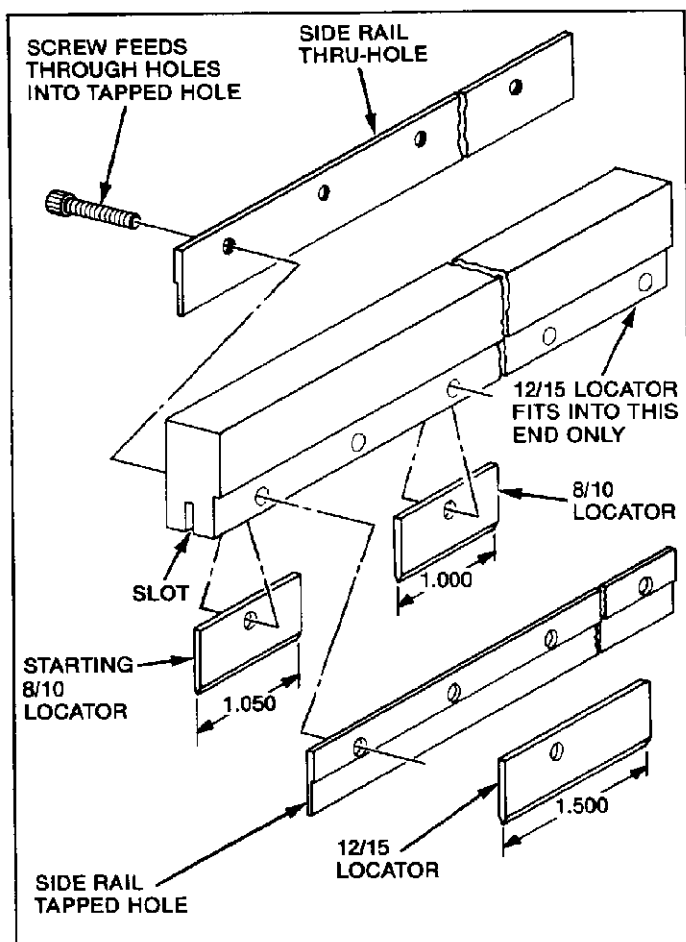
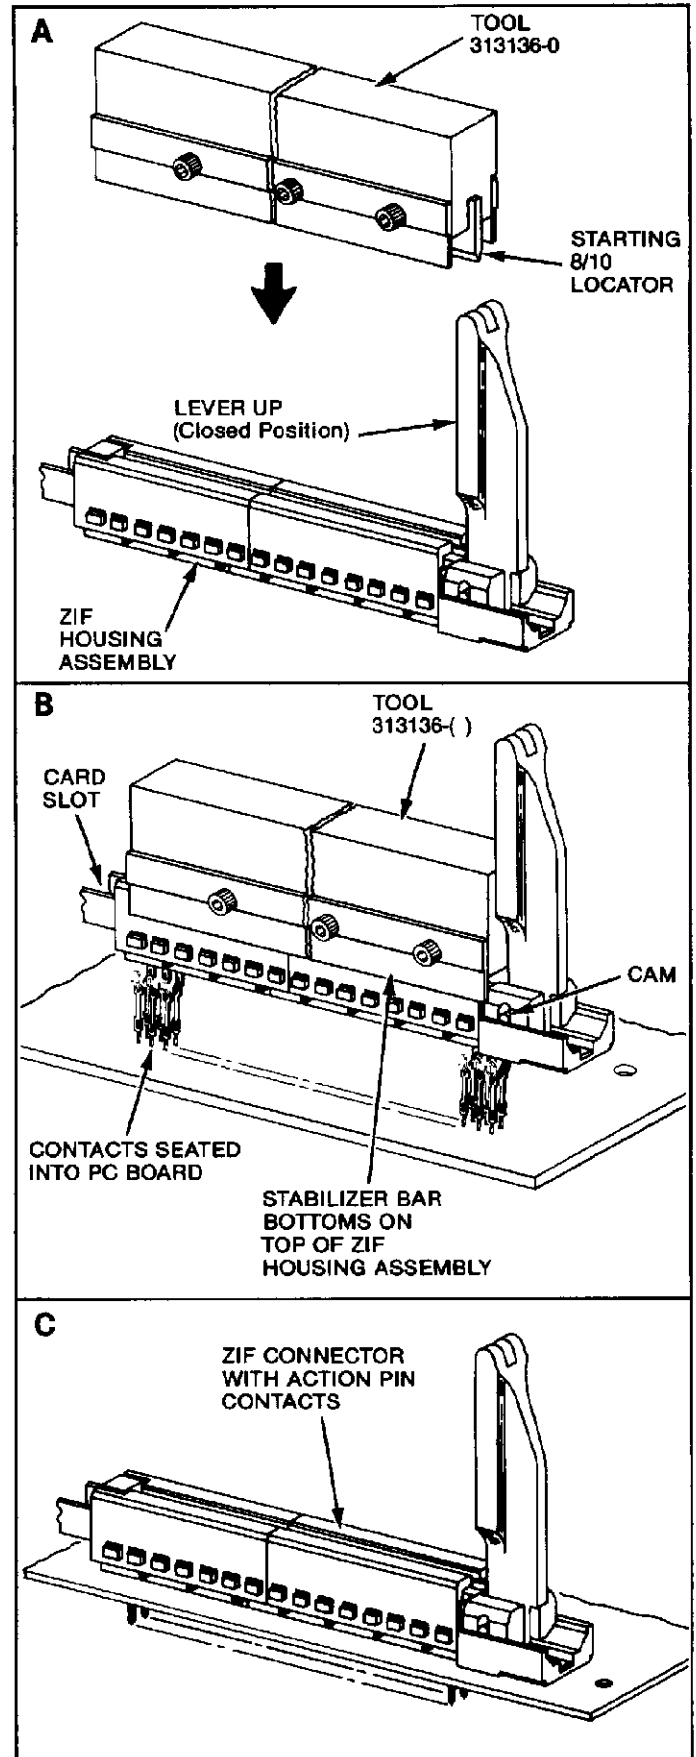

Fig. I-2
Fig. I-5
Each style has a different width as shown in Figure I-2. The locators are held in place by screws which pass through both the *side rail with the thru holes* and the stabilizer bar, and then thread into the *side rail with the tapped holes*, retaining the tool components onto the stabilizer bar.
The starting 8/10 locator is *always* located at the end of the stabilizing bar with the shorter distance from the center of the thru hole to the end of the bar (.500 in., see Figure I-2). This locator *always* has a .050-in. overhang, a fact that is helpful to know not only when assembling a tool but for orienting that tool with the housing assembly during the insertion process (see Paragraphs I-3 and I-4 and Figure I-5).
2. The ZIF housing assembly should be in the CLOSED position before beginning the insertion process. For lever-actuated connectors, move the lever to the UP position as shown in View A of Figure I-5; for bellcrank actuated connectors, move the bellcrank IN.
3. With the housing assembly CLOSED, position the starting 8/10 locator at the end of the housing assembly that has the actuator (cam). See View B, Figure I-5.
5. Continue to fit the tool into the housing assembly until the stabilizer bar bottoms on top of the housing assembly. See View C, Figure I-5.
10. On particularly large size connectors, check to make sure both ends of the connector are fully bottomed. It may be necessary to move the ram off center and repeat step 9 to ensure the connector is bottomed in its entire length. (A properly seated housing assembly is shown in View C of Figure I-5.)